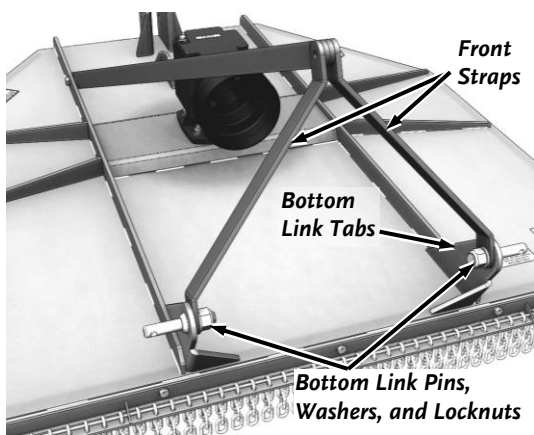

Figure 5
2. Loosely install the two Front Straps on the **inside** of the Bottom Link Tabs using two Bottom Link Pins, M24 Plain Washers, and M24 Locknuts (**Figure 5**). Use a Screw driver in the Hole of the Bottom Link Pin to hold it in place while you tighten the Locknut using a 36mm Wrench or Large Adjustable Wrench. Leave the hardware loose enough so that the Straps can be positioned in step 3.